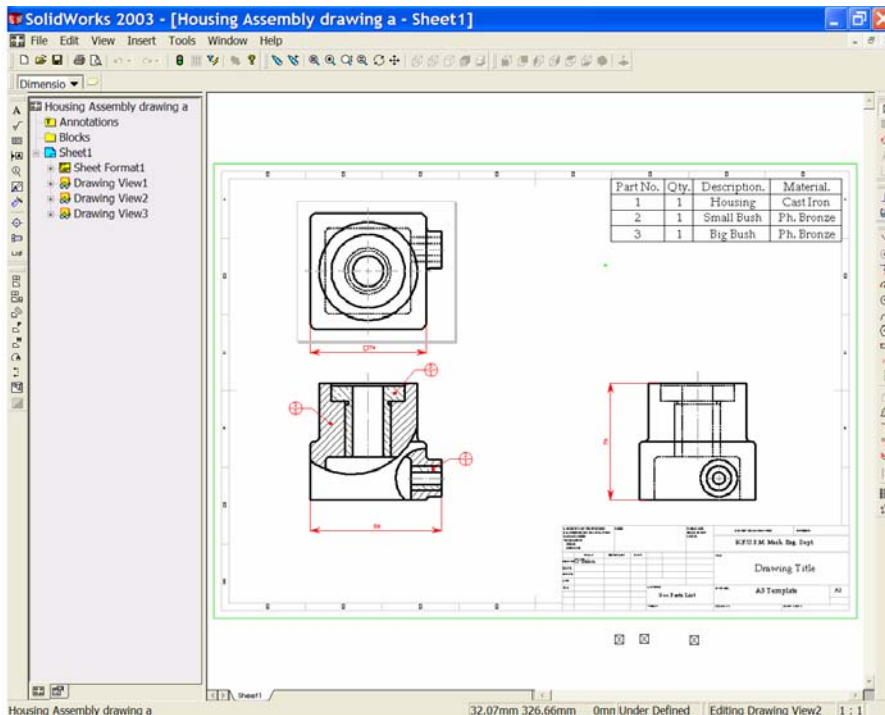

Figure 12
20. Left click outside the **'Bill of Materials'** to close **Excell** and return to **SolidWorks**, with the updated data. See Figure 12.